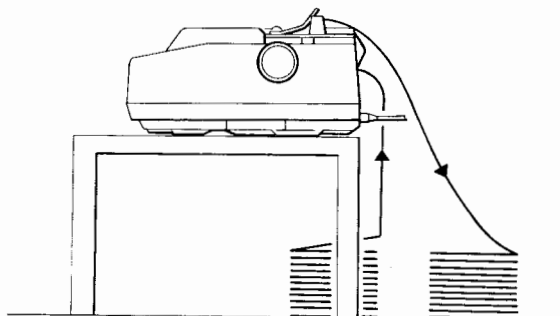

Figure 2-7 Loading continuous forms (3 of 3)
15. While holding the ALT/(RESET) button down, press the LOAD/(FF) button on the control panel and the form will advance to the first print position.
17. Arrange the paper as shown in Figure 2-7 to ensure smooth feeding and folding of paper.